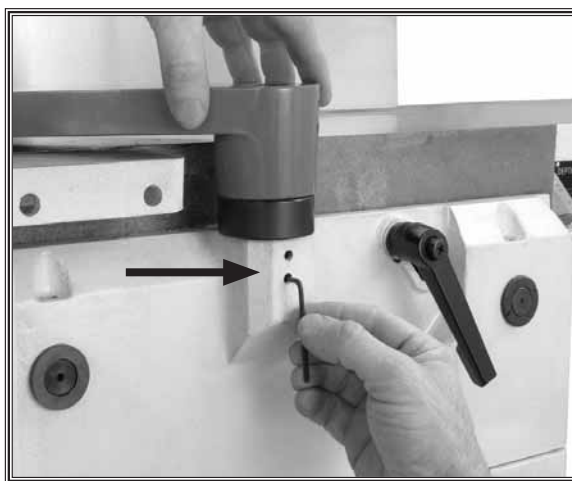

Figure 14. Removing cutterhead guard.
- If the guard does not spring back over the cutterhead, loosen the set screws shown in **Figure 14**, remove the cutterhead guard, and reinstall it so the flat part of the guard shaft faces the set screws. Check to make sure the cutterhead guard works.